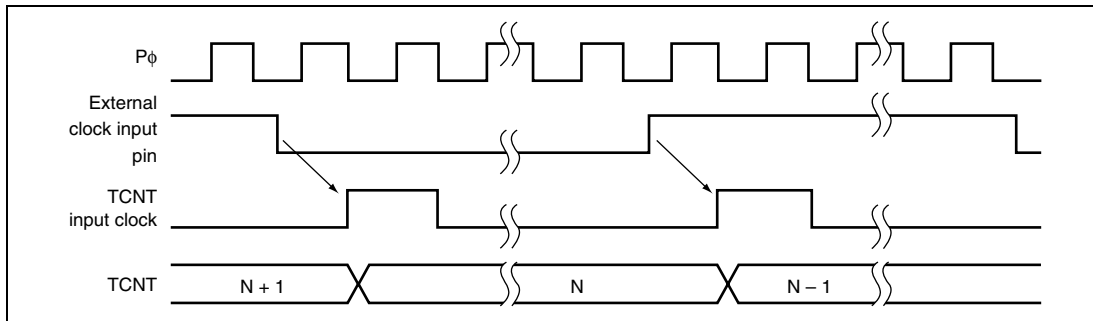

**Figure 12.5 Count Timing when External Clock is Operating (Both Edges Detected)**
2. **External Clock Operation:** Set the TPSC2 to TPSC0 bits in TCR to select the external clock (TCLK) as the timer clock. Use the CKEG1 and CKEG0 bits in TCR to select the detection edge. Rise, fall or both may be selected. The pulse width of the external clock must be at least 1.5 peripheral module clock cycles for single edges or 2.5 peripheral module clock cycles for both edges. A shorter pulse width will result in accurate operation. Figure 12.5 shows the timing for both-edge detection.